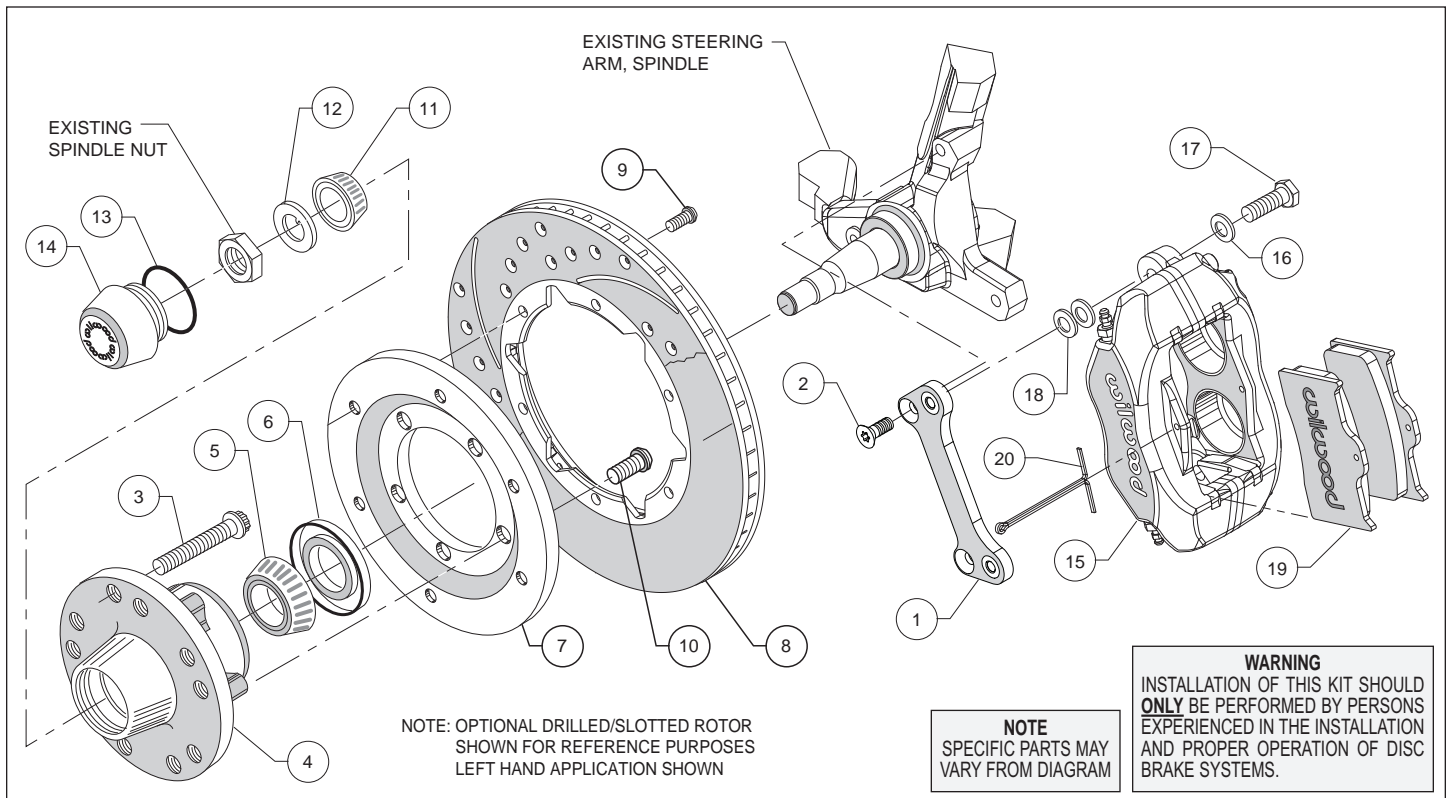
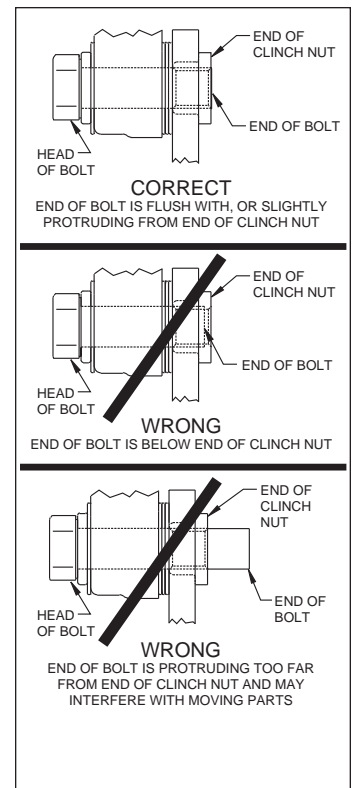

Figure 2. Typical Installation Configuration
Figure 4. Clinch Nut Engagement Diagram
**Assembly Instructions** (numbers in parenthesis refer to the parts list on the preceding page, and Figure 2 above): **CAUTION:** All mounting bolts must fully engage insert nuts. Be sure to check that all bolts are either flush or protruding through flanged side of clinch nut after shimming, Figure 4.
- Align caliper mounting bracket (1) with the corresponding holes, to the face of the spindle and attach using bolts (2), as shown in Figure 2 and Photo 1. Temporarily tighten the mounting bolts. Ensure that the flanged heads of the clinch nuts in the bracket are facing outboard, Photo 1. **NOTE:** The bracket must fit squarely against the mounting points on the spindle. Inspect for interference from casting irregularities, machining ridges, burrs, etc. Remove bolts one at a time, apply red *Loctite*® 271 to threads, and torque to 40 ft-lb.
- Orient the rotor (8) and the rotor adapter (7) as shown in Figure 2 and Photo 4. Attach the rotor to the adapter using bolts (9). Using an alternating sequence, apply red *Loctite*® 271 to the threads, and torque to 25 ft-lb.
- Mount the adapter/rotor assembly (7/8) to the hub (4) using bolts (10), as shown in Figure 2 and Photo 5. Using an alternating sequence, apply red *Loctite*® 271 to the threads, and torque to 45 ft-lb.
•**NOTE:** Please reference the caution statement at the beginning of the assembly instructions. Mount the caliper (15) onto the caliper mounting bracket (1) using bolts (17) and washers (16), as shown in Figure 2. Initially place two .035" thick shims (18) on each bolt between the caliper and the bracket, Photo 8. Temporarily tighten the mounting bolts and view the rotor (8) through the top opening of the caliper. The rotor should be centered in the caliper, Photo 9. If not, adjust by adding or subtracting shims between the bracket and the caliper. Always use the same amount of shims on each of the two mounting bolts. **NOTE:** The end of each bolt must be flush with or slightly protruding from the head of the clinch nut, as shown in Figure 4. If necessary place spare shims between washer (16) and caliper mounting ear to achieve the proper clinch nut engagement. Once the caliper alignment and clinch nut engagement are correct, remove the bolts one at a time, apply red *Loctite*® 271 to bolt threads, and torque to 40 ft-lb.